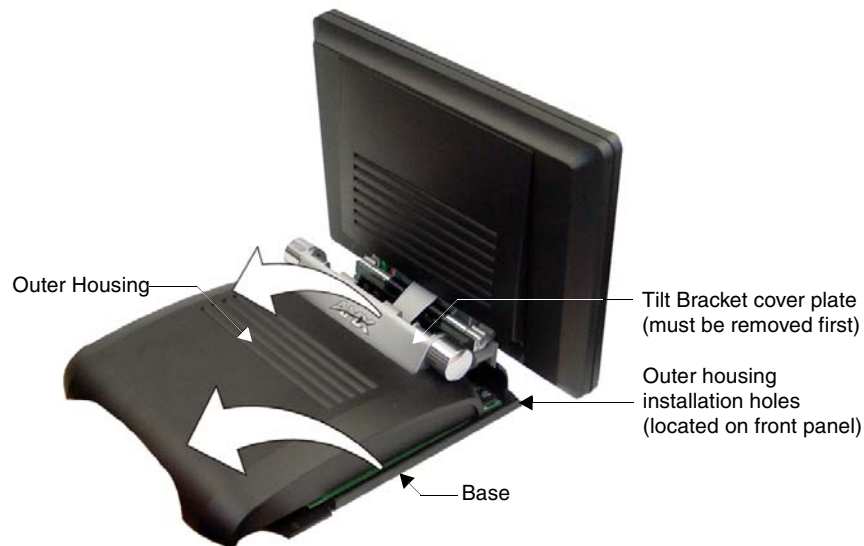

FIG. 18 Removal of the outer housing and wireless card location
8. *In a single motion*, carefully pull both the Tilt Bracket cover plate and outer housing up and then out (away from the LCD panel) to expose the internal circuit board (FIG. 18).
3. Press the outer housing forwards until it is aligned over the outer housing installation holes. Once installed and secured, the tilt bracket prevents any further movement (FIG. 18).